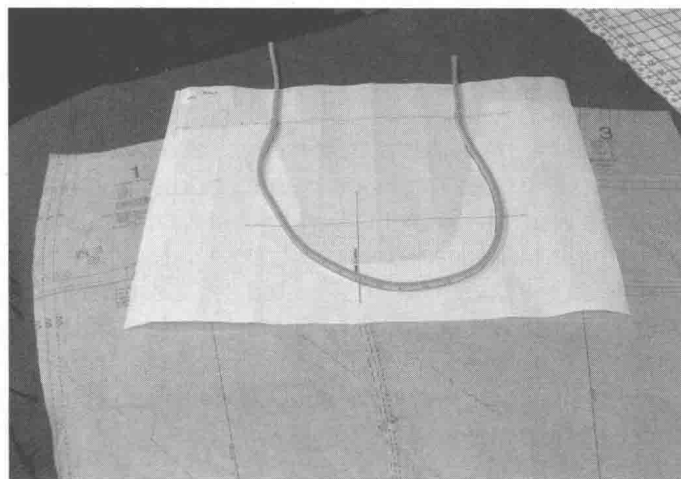

FIGURE 5.5 Trace onto transparent vellum. The shape of the flex-curve is molded to duplicate the body crotch curve.
8. On the inside of the flex-curve, trace the curve onto paper, as it duplicates the crotch curve. You can now see the shape of the crotch curve from the side view. You can make a second copy and cut out the entire shape to use as a template for comparison (see Figure 5.5).